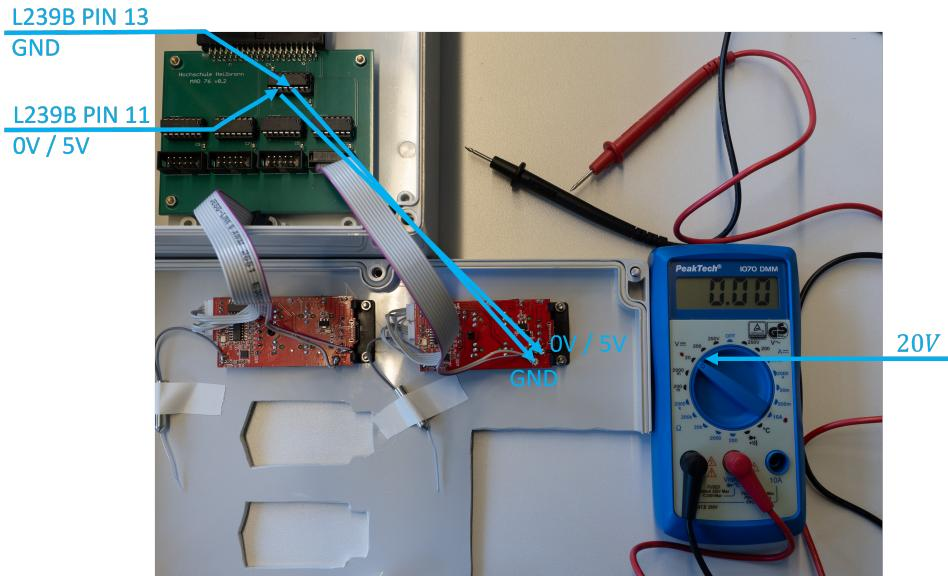

Figure 1: Exercise 2: Measure power supply voltage
2. Measure the voltage at the power supply of RC 1 with a multimeter (see Figure 1)